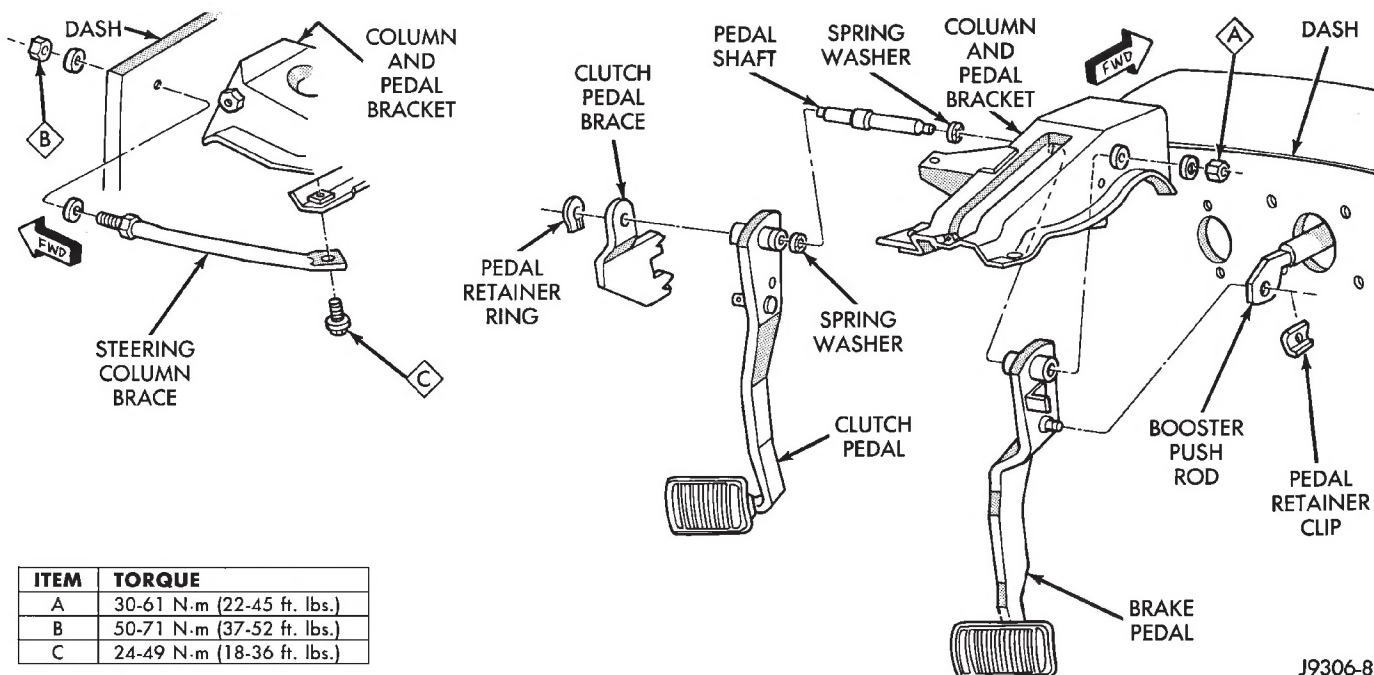
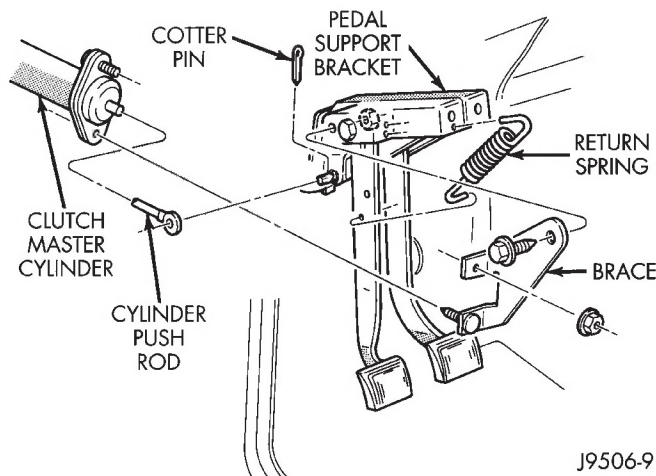

Fig. 15 Clutch Pedal Mounting (YJ)
Fig. 16 Clutch Pedal Mounting (XJ)
- (2) Disconnect clutch pedal position switch wires.
- (3) Remove retainer clip that attaches clutch master cylinder push rod to pedal.
- (4) On YJ, remove retaining ring securing pedal to pivot shaft (Fig. 15). On XJ, remove nut securing pedal to pivot shaft (Fig. 16).
- (5) Move pedal pivot shaft to right and slide pedal off shaft.